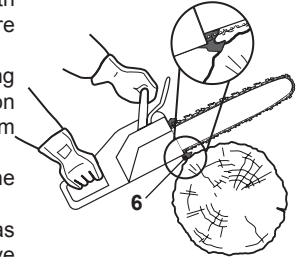
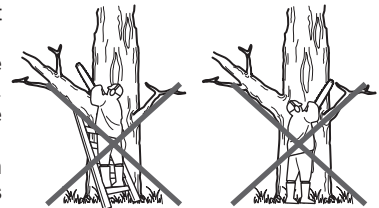

Fig. 21
Fig. 22
5. Ensure the saw chain (12) is running at full speed before it makes contact with the wood. Use spiked bumper (6) to secure the product onto the wood before starting to cut and use it as a leverage point while cutting (Fig. 21).
6. Reset the spiked bumper (6) at a low point when cutting thicker logs by pulling the product slightly backwards until the gripping teeth release, and reposition at lower level to continue sawing. Do not remove the product completely from the wood.
8. Do not operate the product with arms fully extended or attempt to saw areas which are difficult to reach, or on a ladder. Never use the product above shoulder height (Fig. 22).